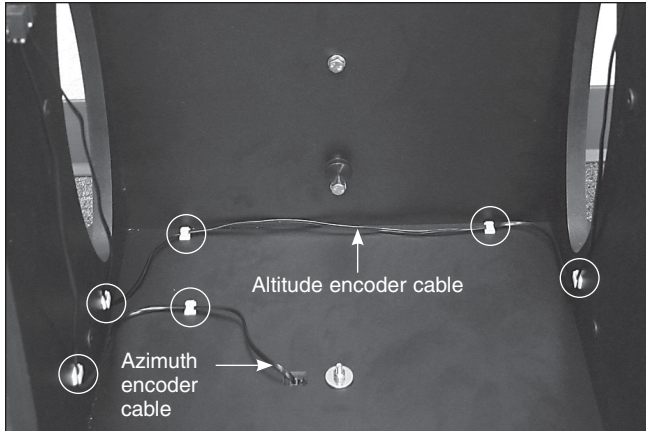

Figure 13. Use the wire clips to secure the cables neatly to the base.
21. Use the wire clips provided with the IntelliScope kit to secure the altitude and azimuth cables neatly to the base. We recommend using two clips for the (shorter) azimuth cable, and four clips for the (longer) altitude cable (**Figure 13**). The clips have adhesive backing; simply peel the paper off the back of the clip and press the adhesive back to the base where you want the clip to be located.
25. Attach the handle (M) to the front brace (B) with the two handle screws. Place one handle washer on each screw, then press the handle against the front brace (the end of the handle with the Orion logo should be facing upwards). Thread the screws from the interior surface of the front brace into the handle until tight using the supplied crescent wrench.